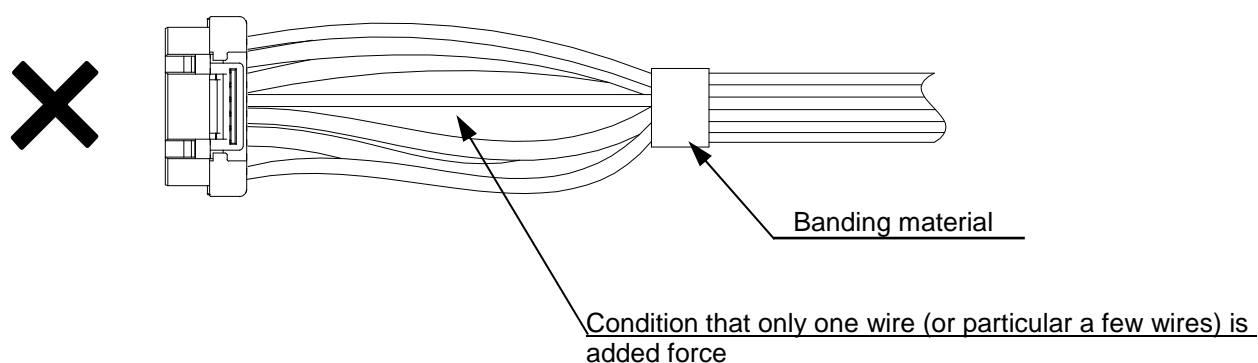

Fig.7-2 Condition that harness is banding improperly
- ② Concerning harness, please consider that only one wire (or particular a few wires) is not added force.(**Fig.7-2**)